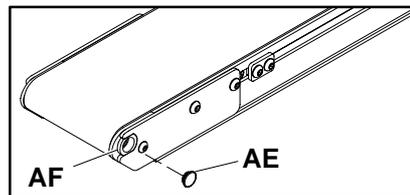

Figure 14
All non-driven positions have a plastic plug (AE of Figure 14) installed into the ends of the pulley retaining sleeves (AF). Use a small flat screwdriver to remove this plug.
Install the plastic plug (AE of Figure 14) into the ends of the pulley retaining sleeves (AF).